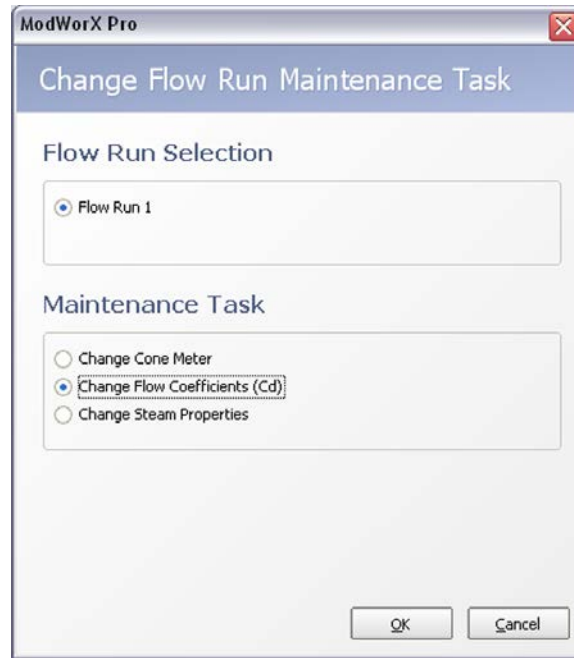

Figure 10.12
1. If Change Steam Properties is not displayed in the Maintenance Task field at the top of the Maintain Flow Run screen, click on **Change Task**. The Change Flow Run Maintenance Task dialog will appear (Figure 10.12, page 144).